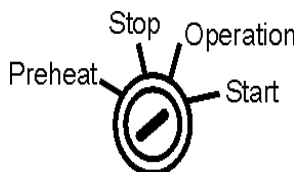

Figure 41. Starter Switch
7. Preheat the engine by turning the ignition key to the left. Once the preheat lamp luminates, turn the key to the farthest right to start the engine. Once the engine start to crank, release the key to 'operation' (Figure 41).